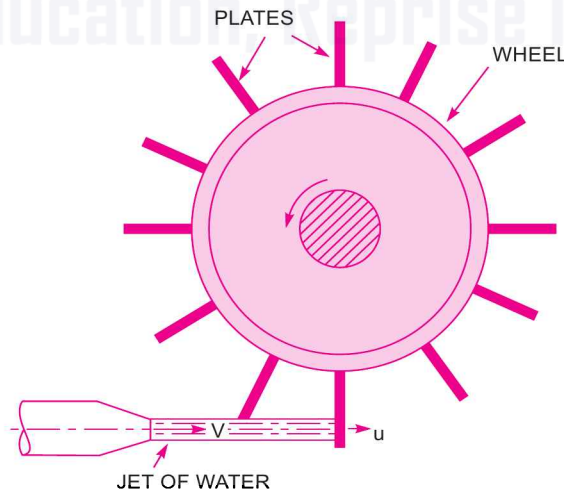

Fig. 17.22 Jet striking a series of vanes.
**17.4.5 Force Exerted by a Jet of Water on a Series of Vanes.** The force exerted by a jet of water on a *single* moving plate (which may be flat or curved) is not practically feasible. This case is only a theoretical one. In actual practice, a large number of plates are mounted on the circumference of a wheel at a fixed distance apart as shown in Fig. 17.22. The jet strikes a plate and due to the force exerted by the jet on the plate, the wheel starts moving and the 2nd plate mounted on the wheel appears before the jet, which again exerts the force on the 2nd plate. Thus each plate appears successively before the jet and the jet exerts force on each plate. The wheel starts moving at a constant speed.